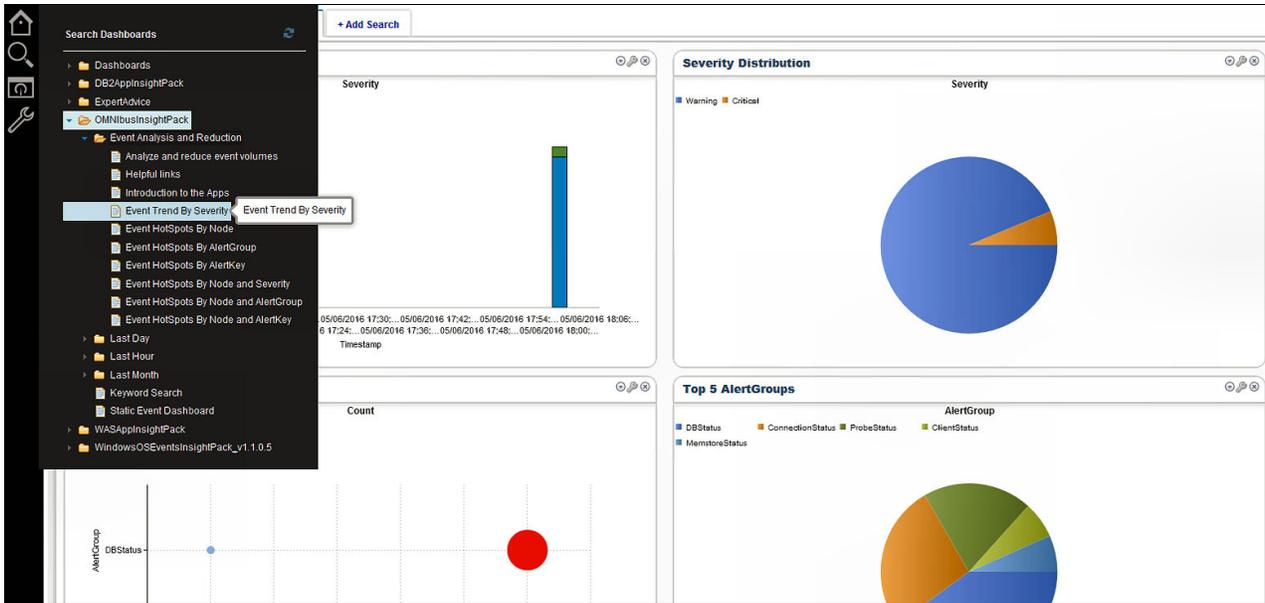

Figure 7-5 Event Trend by Severity menu
- Jane opens IBM Operations Analytics - Log Analysis console to see the event rate chart. She starts the Event Trend By Severity view by clicking **Search Dashboards** → **OMNibusInsightPack** → **Event Analysis and Reduction** → **Event Trend By Severity** from the left top menu, as shown in Figure 7-5.